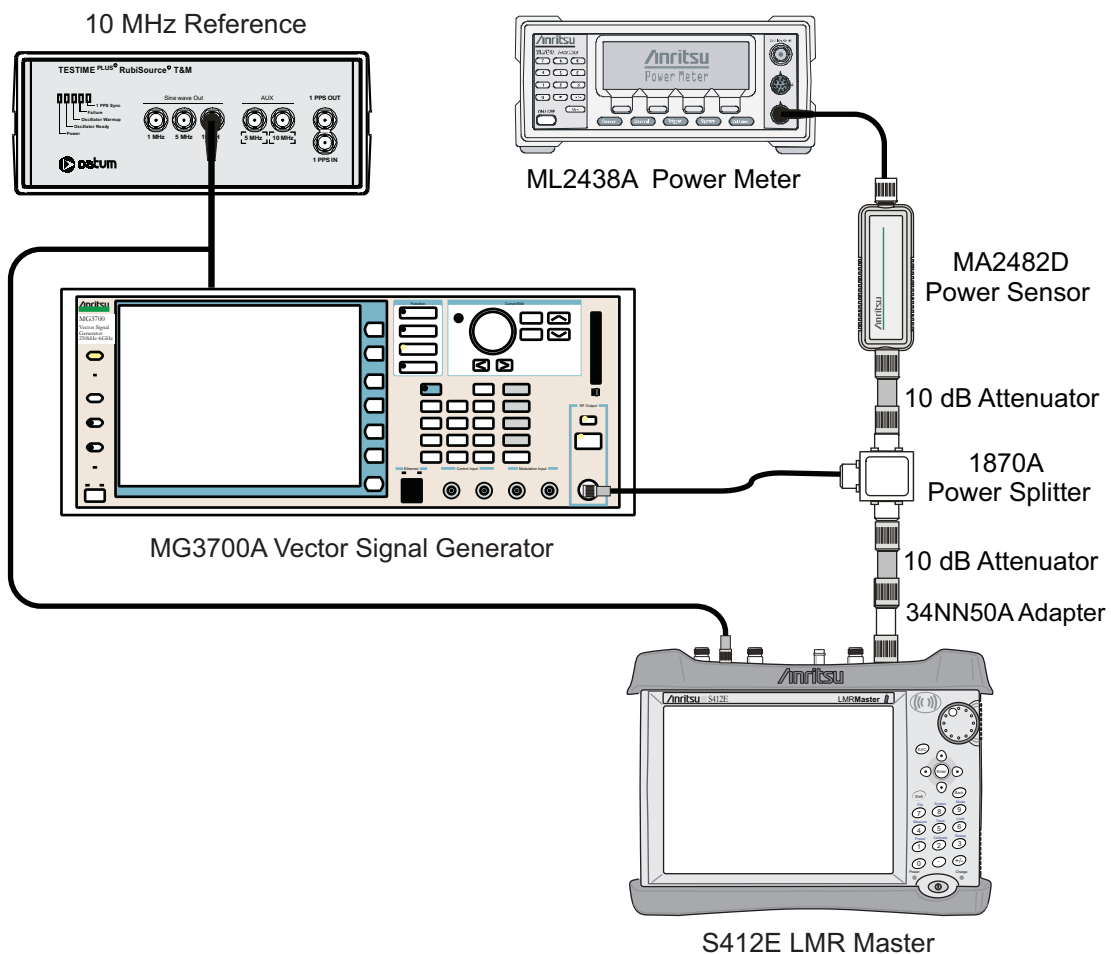

Figure 5-4. LTE Signal Analyzer Option Verification
4. Connect the equipment as shown in Figure 5-4.